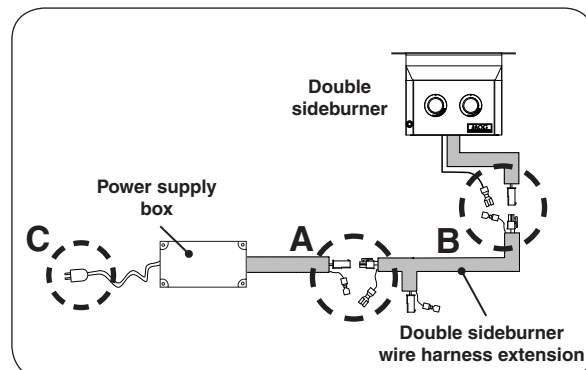

Fig. 16-4 Connect sideburner to power supply
- Connect the power supply box connectors to the double sideburner wire harness extension, as shown in Fig. 16-4, **A** (molex and ground wire connections).
- Connect the double sideburner wire harness extension to the double sideburner, as shown in Fig. 16-4, **B** (molex and ground wire connections).
- Connect the cord coming from the power supply box to a **120VAC (15 AMP minimum) GFCI GROUND 3-wire receptacle**. See Fig. 16-4, **C**. The GFCI receptacle must be a **WEATHER-PROOF IN-USE COVERED RECEPTACLE**.